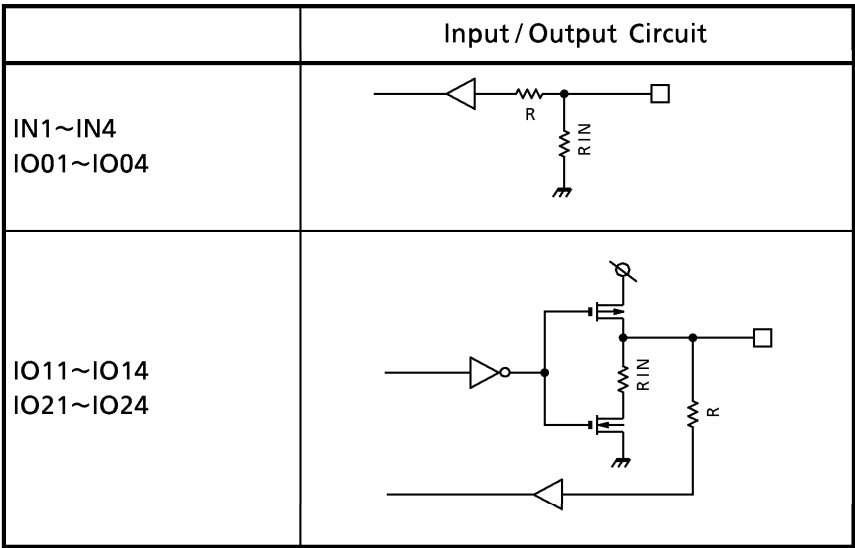

Fig.18 Structure of input/output port
4. Input/IO PORTS (Refer to Fig.18)